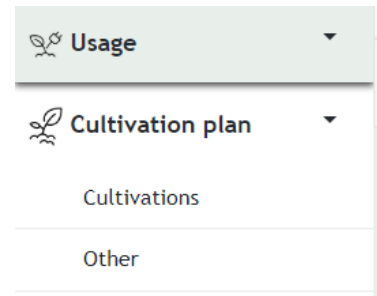

Figure 1
1. Click on 'Cultivations' as shown in figure 1.